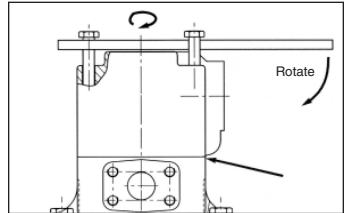

Fig. 42
4. Rotate the housing with a bar blocked between the two screws **(Fig. 42)**.